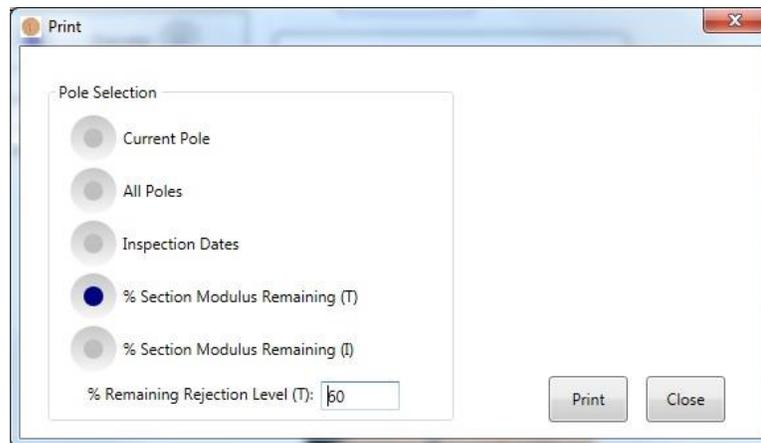

Figure 3-9. % Section Modulus Remaining (T)
- *% Section Modulus Remaining (T)* – All damage data for all poles having a remaining Transverse Section Modulus below a given percentage threshold will be printed. The print dialog is shown in Figure 3-9.